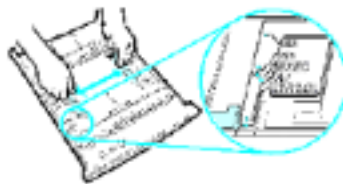

Figure 23. Moving the Side Width Guides
2. Move the side width guides outward to match the paper size as shown in Figure 23.